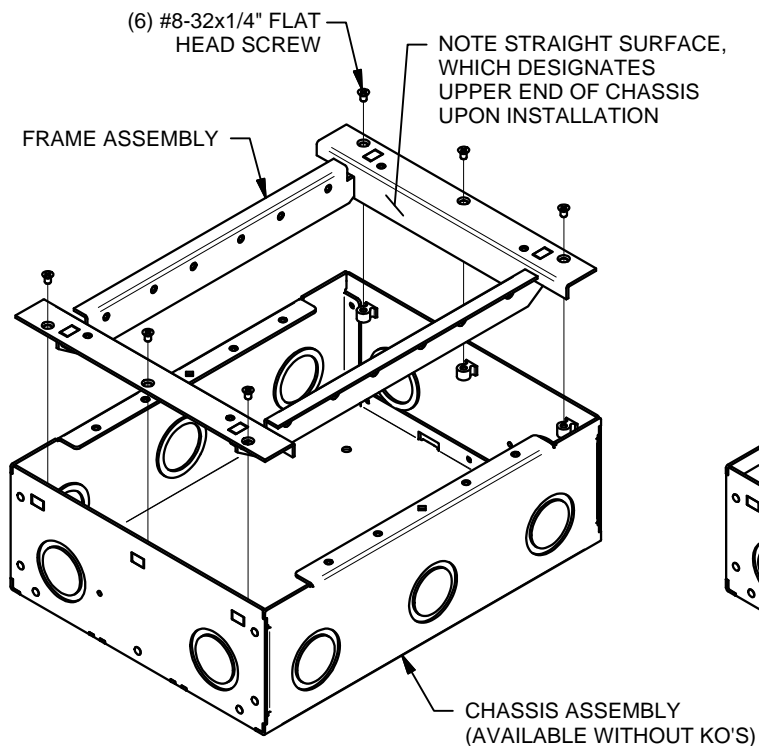

FIGURE 10
4. INSTALL FRAME ASSEMBLY AS SHOWN IN FIGURE 10.